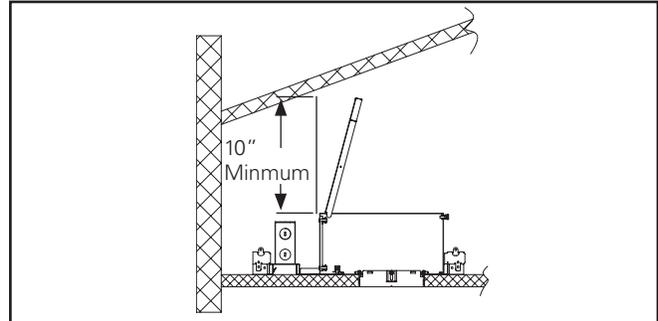

Figure 11.
**Top Access and Re-Lamping (Figure 11.):** Top access is obtained by loosening the top access screw on the housing platform and lifting or removing the top. This will allow for inspecting and servicing the fixture without removal. In addition to normal re-lamping from below the ceiling, the P406TAT and P408ICAT housing platforms can be re-lamped using top access. A minimum of 10" clearance above the housing is recommended to allow top access. The installer must insure proper clearance for access to the fixture.